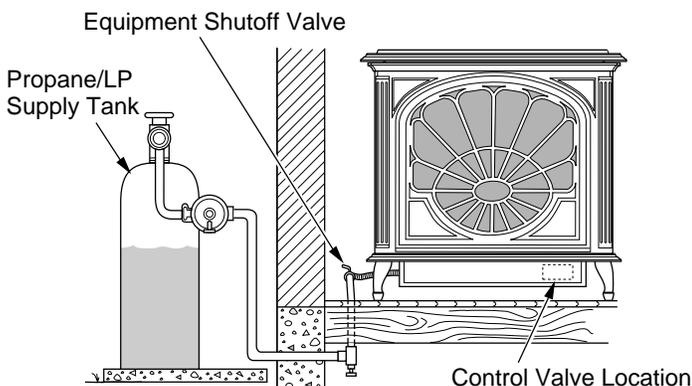

Figure 21 - Checking Gas Joints (Amity™ Stove Model Shown)
3. Check all joints from gas meter for natural or propane/LP supply to equipment shutoff valve (see Figure 21 or 22, page 13). Apply a noncorrosive leak detection fluid to gas joints. Bubbles forming show a leak.
4. Check all joints from equipment shutoff valve to control valve (see Figure 21 or 22). Apply a noncorrosive leak detection fluid to gas joints. Bubbles forming show a leak.